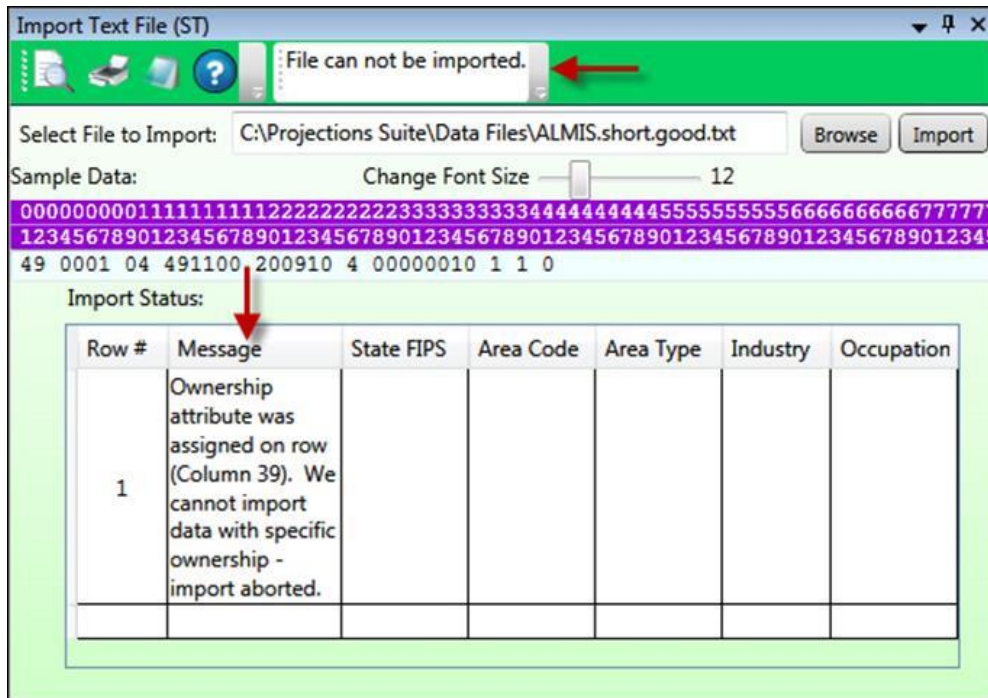

Figure 3: Data validation messages
3. If you are satisfied with the file layout, click **Import**. There are two places import information displays (see Figure 3):